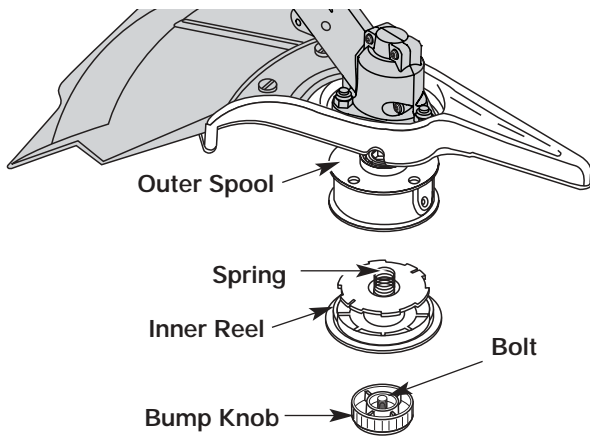

Fig. 51
1. Hold the outer spool with one hand and unscrew the Bump Knob clockwise (Fig. 51). Inspect the bolt inside the bump knob to make sure it moves freely. Replace the bump knob if damaged.
2. Remove the inner reel from the outer spool (Fig. 51).
3. Remove spring from the inner reel (Fig. 51).
- Hold the outer spool with one hand and unscrew the bump knob clockwise (Fig. 51). Inspect the bolt inside the bump knob to make sure it moves freely. Replace the bump knob if damaged.
- Remove the old inner reel from the outer spool (Fig. 51).
- Remove the spring from the old inner reel (Fig. 51).